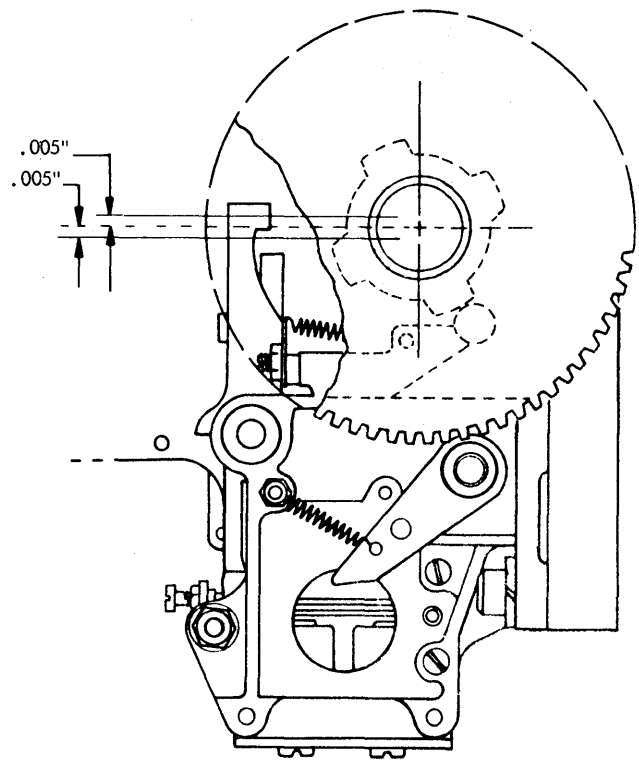

Figure 4-12. Punch Clutch Position
1. Set the clutch so that the latch arm face is on the vertical center line of the picker knife cam shaft within .005" (Figure 4-12).